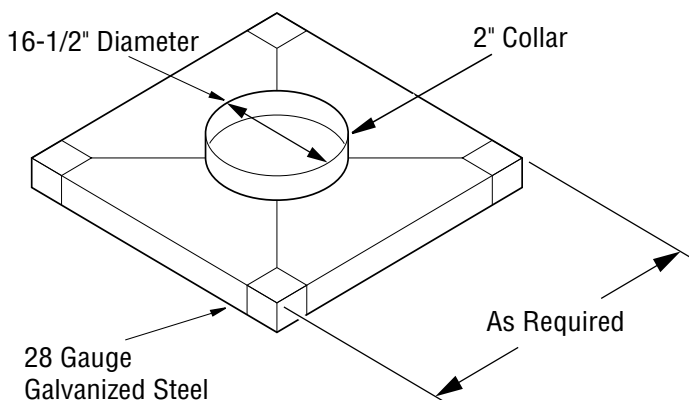

Figure 23 - Constructing Chase Top Flashing
3. Fabricate a flashing having a 16-1/2" diameter hole centered over chimney end with a 2" collar around hole (see Figure 23).